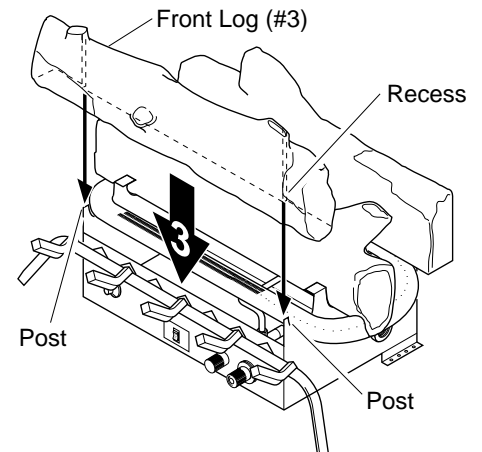

Figure 23 - Installing Front Log (#3)
3. Locate the recesses on the back of the front log (#3). Fit these recesses between the posts of the grate base (see Figure 23).